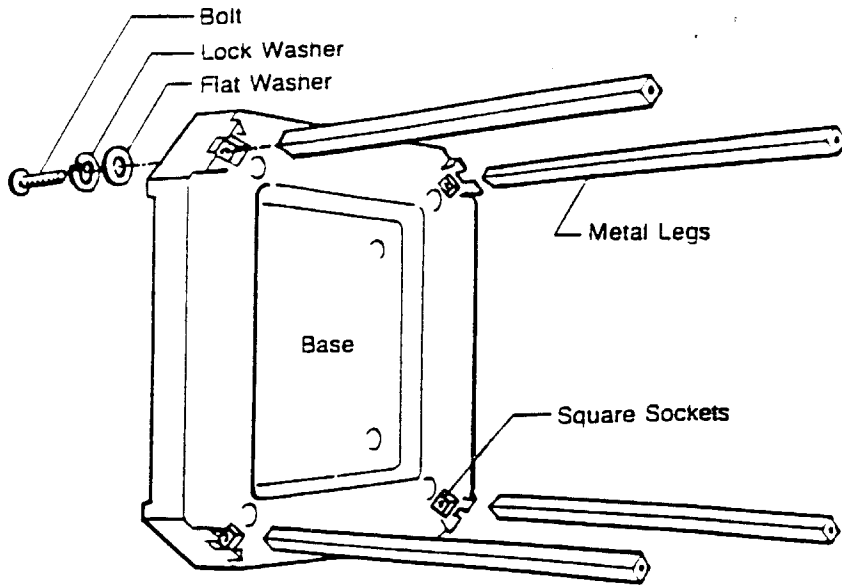

Figure 1-1
2. Insert metal legs into the (4) square sockets in the base. (See Figure 1-1)